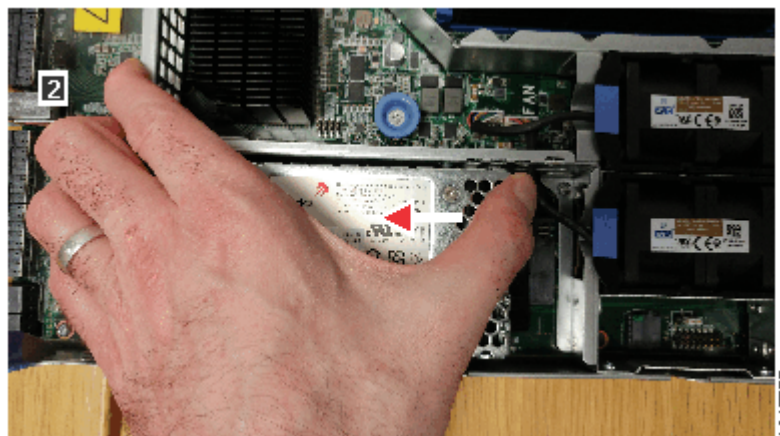

Figure 74. Sliding the node battery out of its position
7. Slide the node battery toward the latch until it stops, as shown in Figure 74 on page 128.